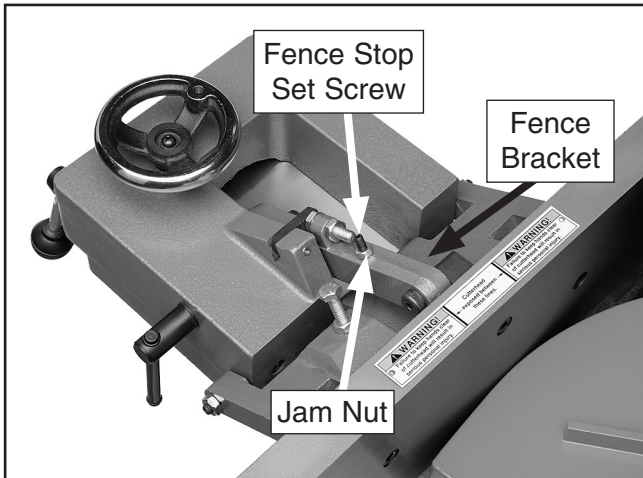

Figure 59. 45° inward fence stop set screw.
- Loosen the jam nut shown in **Figure 59**.